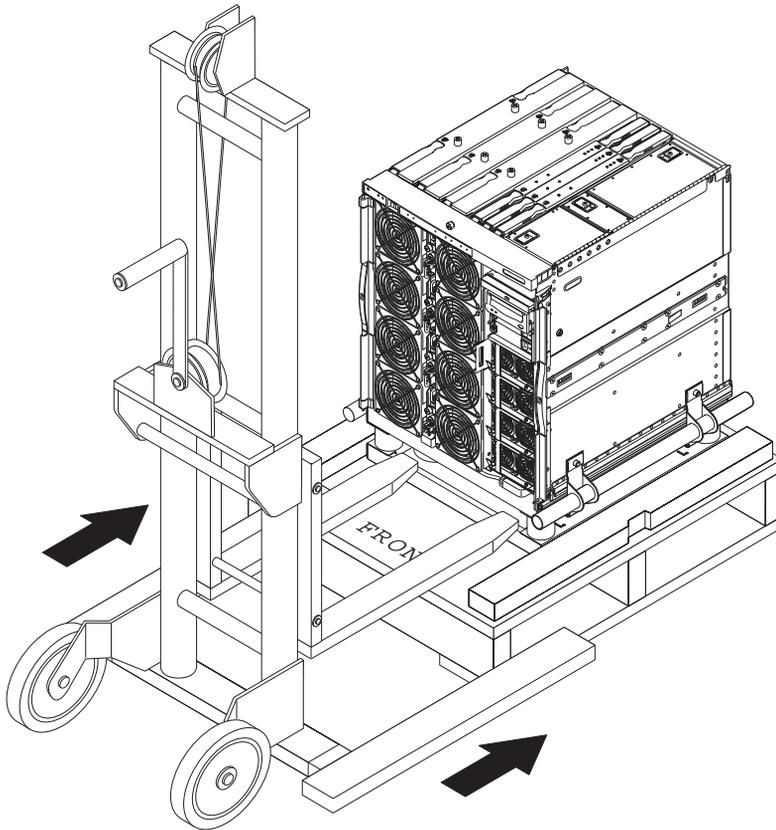

FIGURE 1-10 Inserting the Lifting Device Into the Shipping Cradle
2. Insert the forks of the lifting device fully through the shipping cradle opening (FIGURE 1-10).